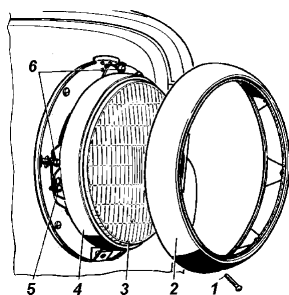
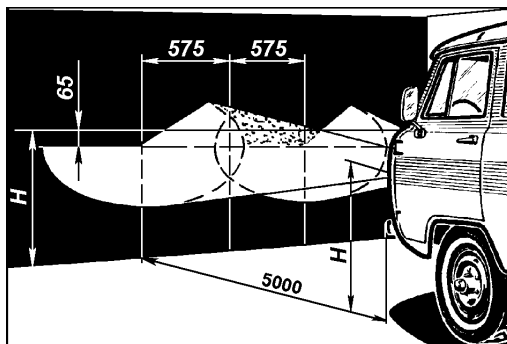

Fig. 65. Headlamp:
Fig. 66. Aiming screen for headlamp adjustment: H - distance from center of headlamps to ground level
For replacing the bulb in the headlamp, turn out screw 1 (Fig. 65) securing garnish molding 2 and remove it. Loosen three screws 5 and take out inner molding 4 together with the sealed beam unit 3.
3. Turn on the lower beam and cover one headlamp. Adjust the beam by turning the screws 6 (Fig. 65) until the area of the concentrated light corresponds with the marks on the aiming screen or the wall as indicated in Fig. 66. The adjusting screws of the headlamp 62.3711-09 are located symmetrical about the headlamp center in the horizontal plane.